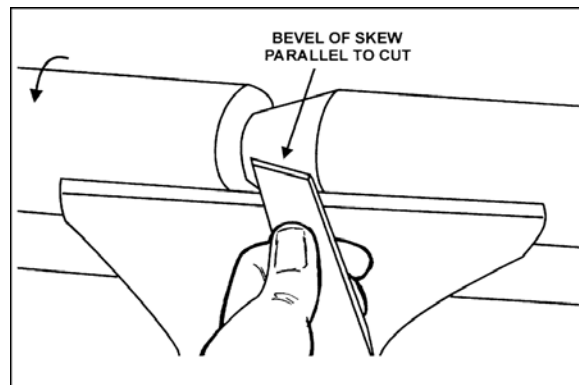

Figure 36
- With the bevel parallel to the right side of the cut, raise the handle and push the tool in to the desired depth, as shown in Figure 36.